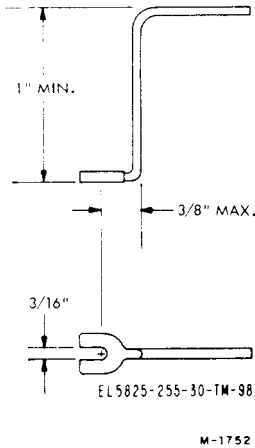

Figure 3-1. Wrench, Antenna RFJack.
a. *Special Tools* (fig. 3-1). Only one special tool is required, a special wrench for tightening the antenna RF jack (1A14MP4, fig. 3-21). If no wrench is available that meets the requirements of figure 3-1, a wrench can be manufactured from a standard 3116-inch open end wrench as shown. The wrench can be formed by heating the wrench at the points where it must be bent or by cutting the wrench end from the handle and then